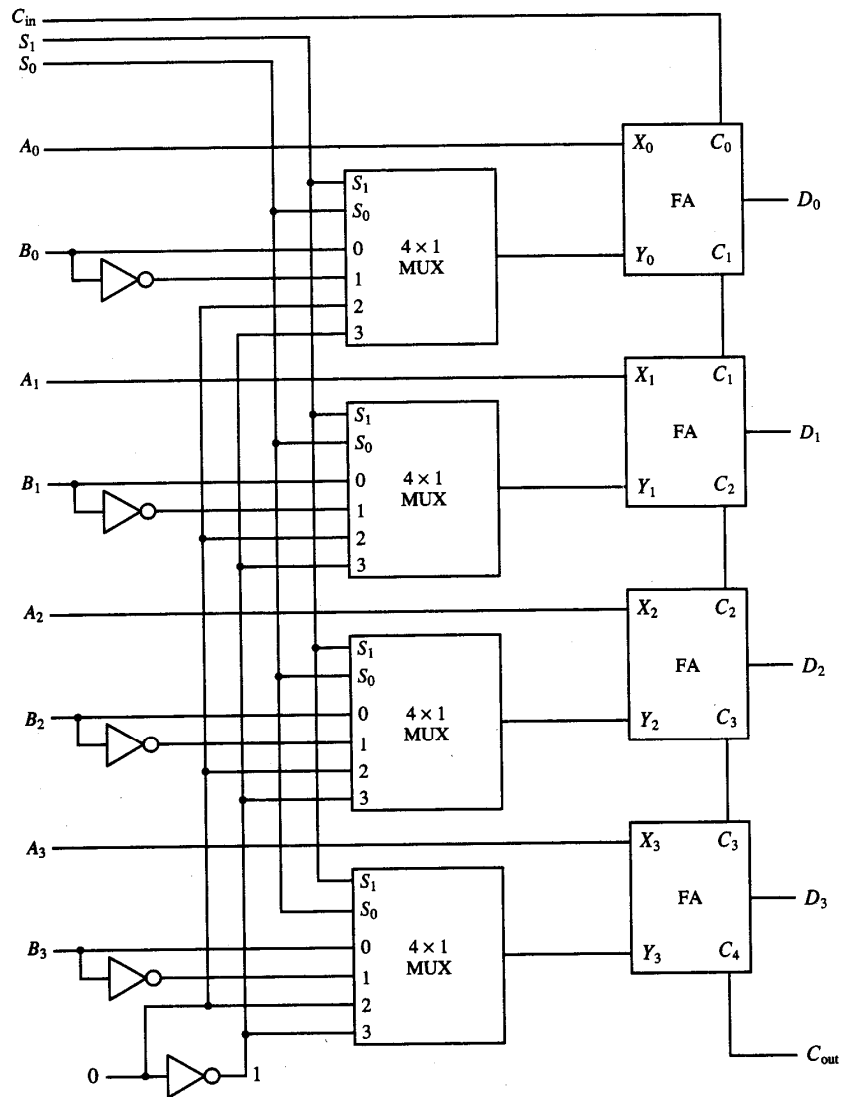

Figure 12: Arithmetic circuit of 4-bit
**Note** that the use of multiplexers 74151, 74153 and 74257 is not compulsory. In fact, you can get **5% bonus** if you use the component *lpm-mux* instead of these multiplexers. Figure 12 gives an example of this multiplexer.